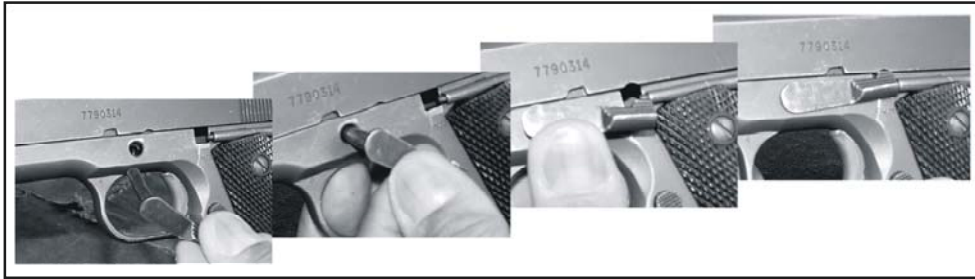

Figure 12. Replace Slide Stop
- h. Place the slide stop in the hole on the left side of the receiver group. Twist the slide stop downward slightly. Push it in as far as it will go. At the same time, push it up and put it back in its proper position (Figure 12).